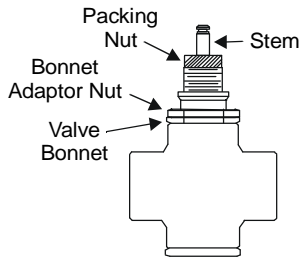

Figure 5: Valve Bonnet Adaptor
- For VT valves, thread the bonnet adaptor nut (included in the VA-8020-100 kit) onto the valve bonnet shown in Figure 5, and tighten with a wrench until it is snug.